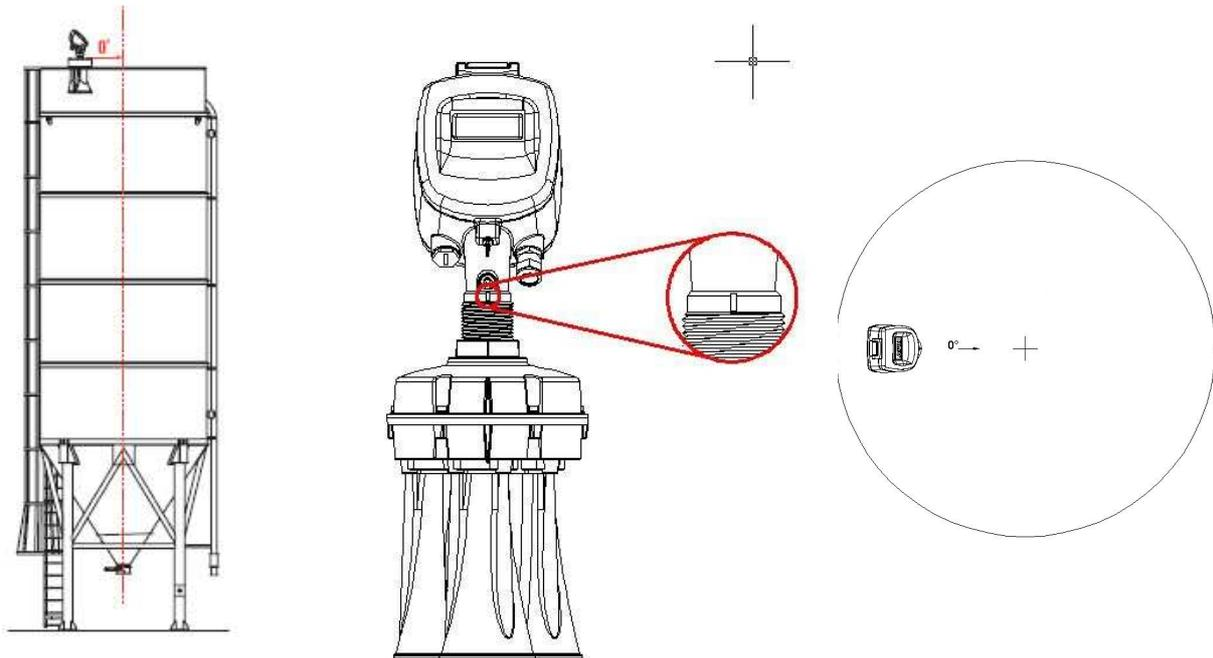

Figure 25 Mounting Direction
- ⦿ The mounting direction is indicated by a tenon on the unit (see middle image of Figure 25).